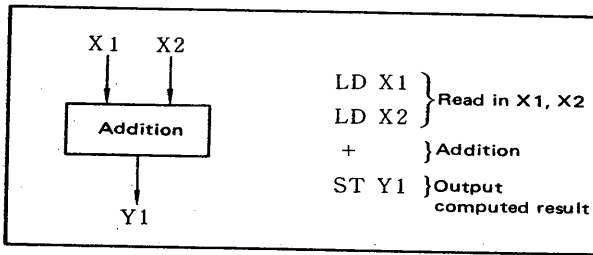
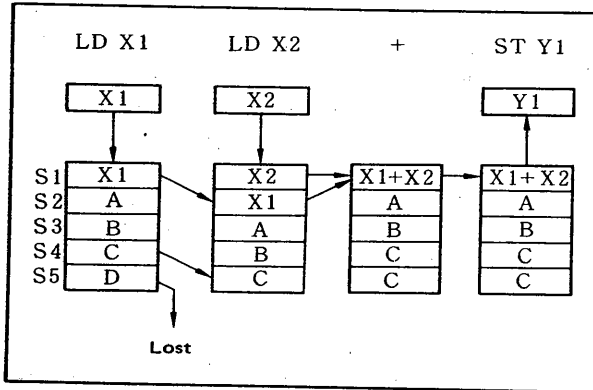

Figure 4-2-1. Two-Input Adder and Program.
Figure 4-2-2. Behavior of Arithmetic Registers Associated with the Sample Program.
The SLPC performs three basic operations. It reads the input signal, computes, and outputs the computed result. The example in Figure 4-2-1 shows how to program the addition of two input signals. Figure 4-2-2 shows how the stack registers S change during the program. All computations are performed in the common stack registers S. Connection of signals to the registers - that is, input to the S registers - is performed by means of the LOAD (LD) instruction. The S registers, S1 thru S5, comprise a "stack," and data in S is pushed down (S1 to S2, S2 to S3, and so on) each time new data is input by the LD instruction.